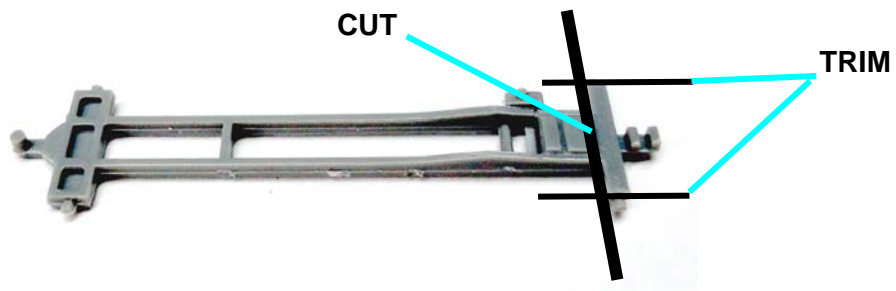

Figure 23. Tow Bar Pivot Cut from Part A21
- 7) Cut off the pivot end of part A21 as shown in Figure 23 below.